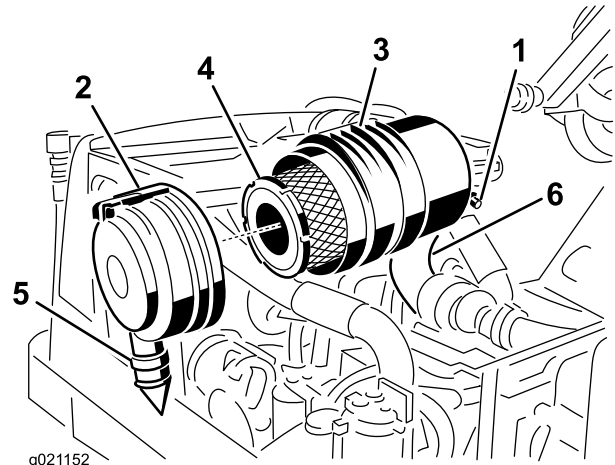
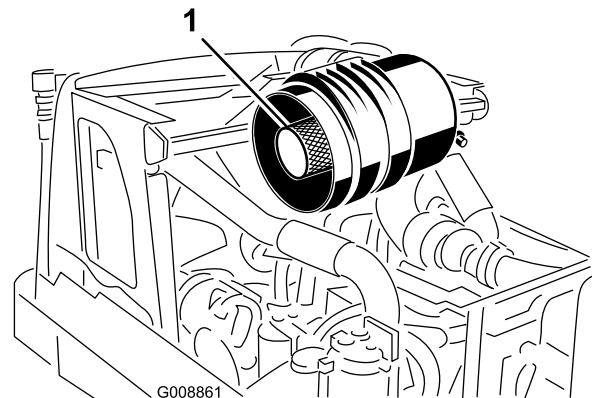

Figure 59
Figure 60
1. Pull the latch outward and rotate the air cleaner cover counterclockwise (Figure 59).
2. Remove the primary filter (Figure 59). Cleaning of the used element is not recommended due to the possibility of damage to the filter media. Inspect the new filter for shipping damage, checking the sealing end of the filter and the body. Do not use a damaged element. **Do not** remove the safety filter (Figure 60).
**Important:** Never attempt to clean the safety filter (Figure 60). Replace the safety filter with a new one after every three primary filter services.
3. Replace the primary filter (Figure 59).
- Install the cover orienting the rubber outlet valve (Figure 59) in a downward position - between approximately 5:00 to 7:00 when viewed from the end. Secure the latch.